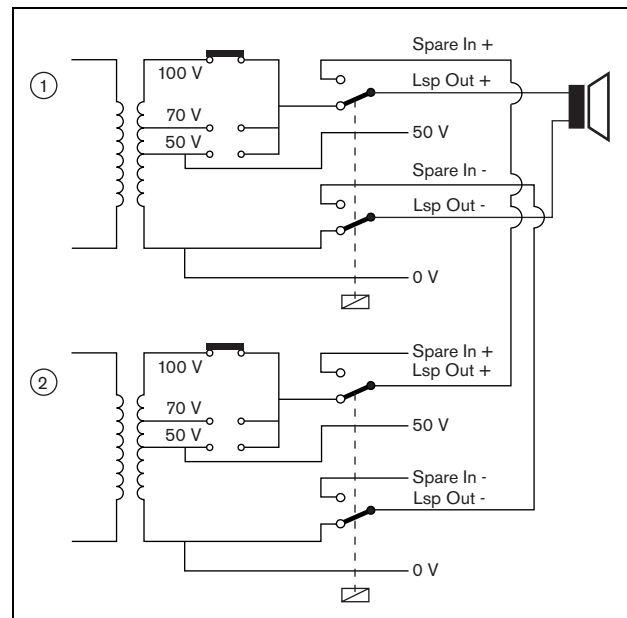
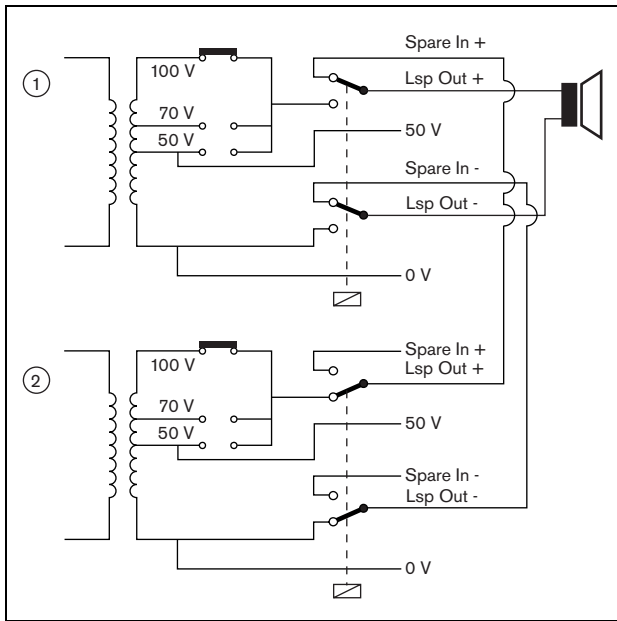

figure 8.8: Power amplifier, before spare switching
figure 8.9: Power amplifier, after spare switching
The actual spare switch is carried out by a relay. See figure 8.8 for the situation before spare switching and figure 8.9 for the situation after spare switching. As long as the main power amplifier (1) functions correctly, this relay is energized (see figure 8.8) and the audio is routed to the loudspeaker line (*Lsp Out+* and *Lsp Out-* terminals). The spare amplifier (2) does not route any audio, since it has no connection to any loudspeaker line.
At the moment the main amplifier (1) goes down, the relay is de-energized and the switches fall into their default positions: *Spare In -* and *Spare In +* (see figure 8.9). This means that the audio output of the spare amplifier (2) is routed to the loudspeaker line through the main amplifier (1). The configuration settings (see section 43.3) of the audio outputs are transferred from the main power amplifier to the spare power amplifier. The configuration settings of the audio inputs, control inputs and control outputs are not transferred to the spare power amplifier.